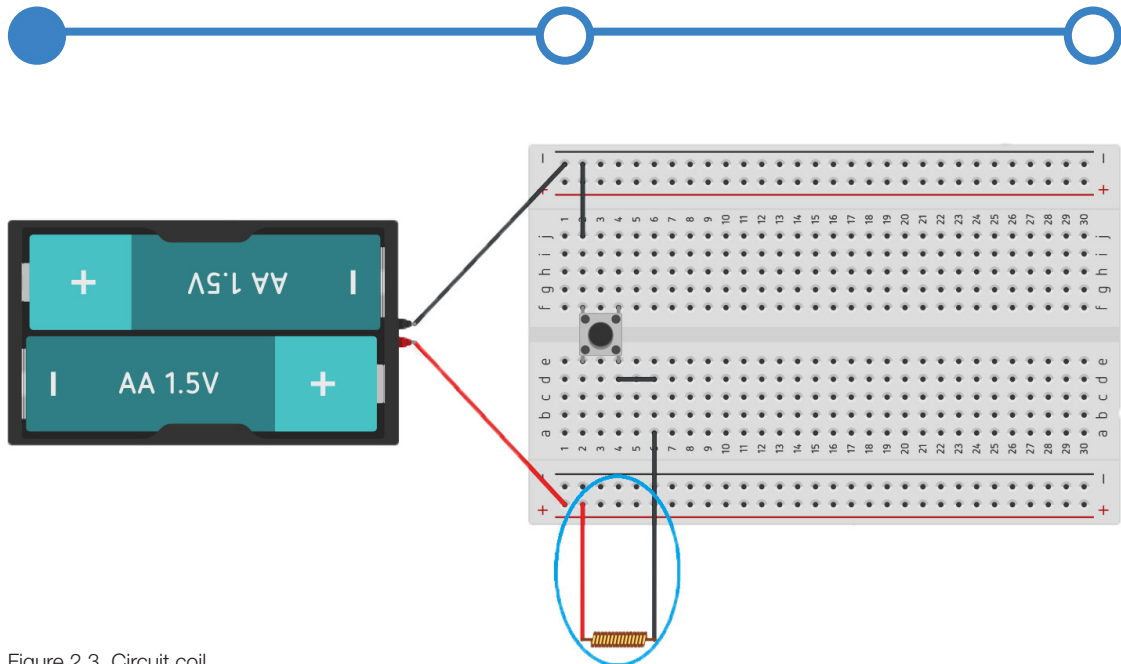

Figure 2.3. Circuit coil
6. Now build the following circuit as in figure 2.3. The component in the blue circle represents your loop coil as built in step 4! Note: you probably have to locate your loop coil somewhere else in the breadboard. However, the way of wiring the loop coil should be the same.